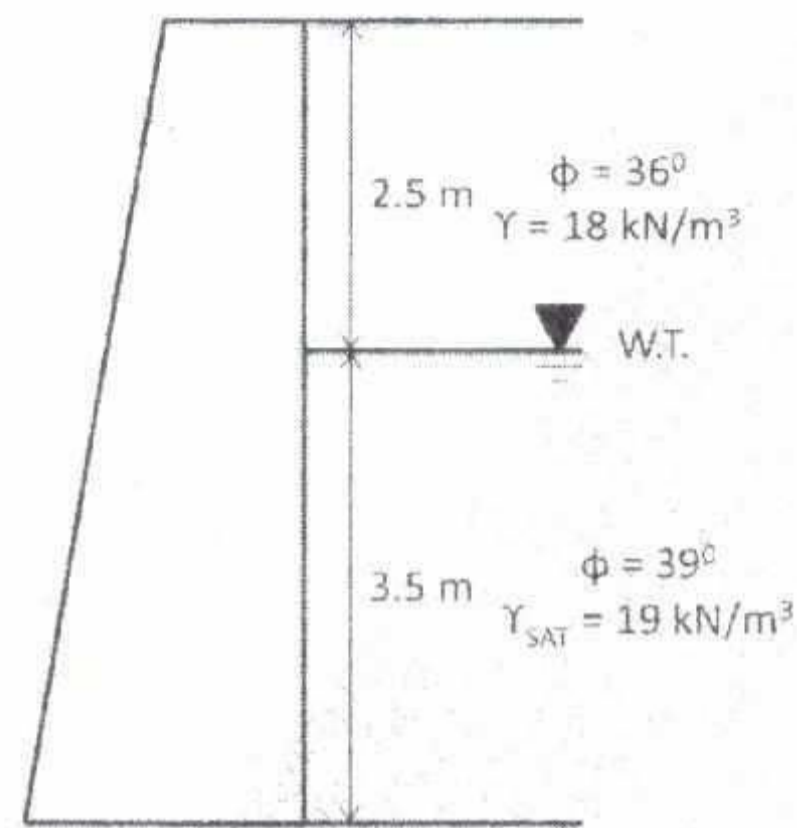

Fig. 1.
- (b) Determine the active earth pressure on the retaining wall shown in Fig. 1. Take  $\gamma_w = 10 \text{ kN/m}^3$ . 10